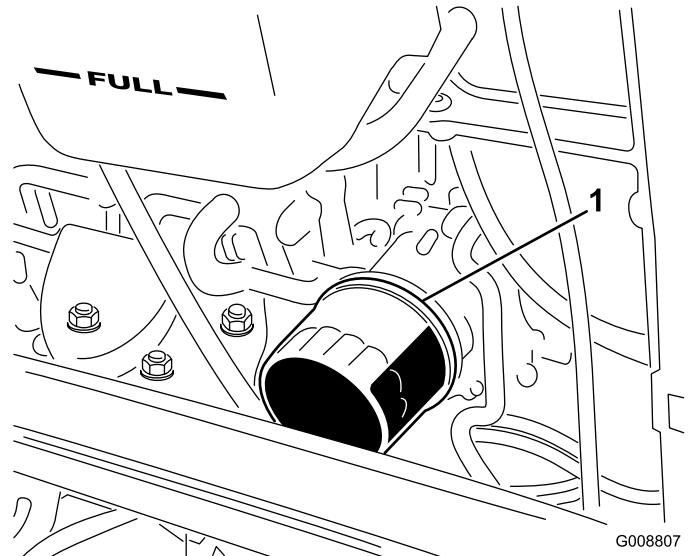

Figure 38
2. Remove the oil filter (Figure 38).